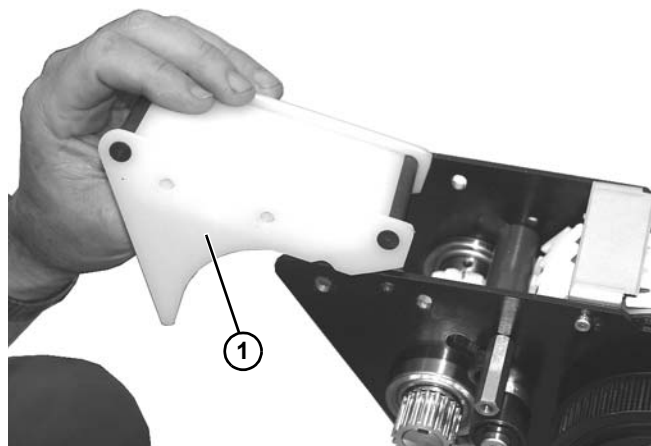

Figure 163
10. Remove wear bar assembly (**Figure 163, item 1**) from power transfer.